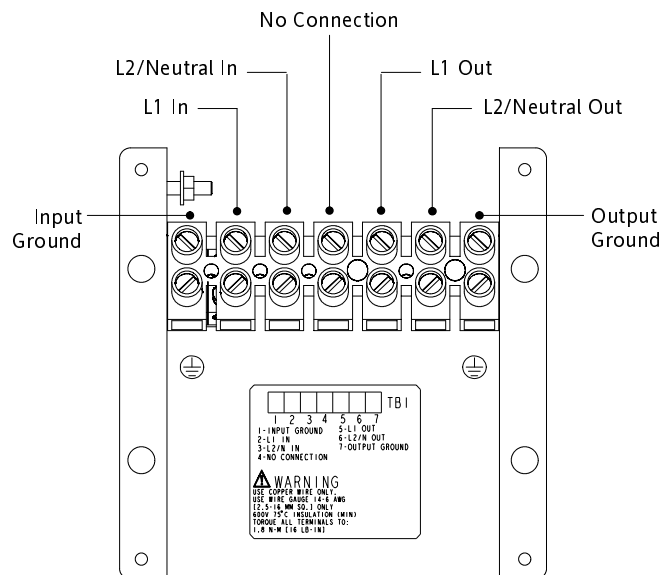

Figure 13. Terminal Block
6. Connect the input and ground wires to the input terminal block according to Figure 13 and Table 1.
7. Connect the output and ground wires to the output terminal block according to Figure 13 and Table 1.